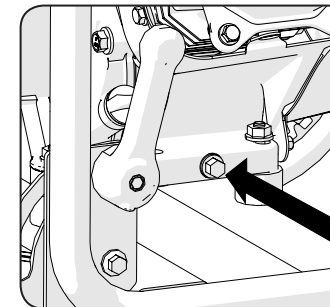

Fig 19
- Remove the oil drain plug so that the oil can drain completely from the engine. (Fig. 19)